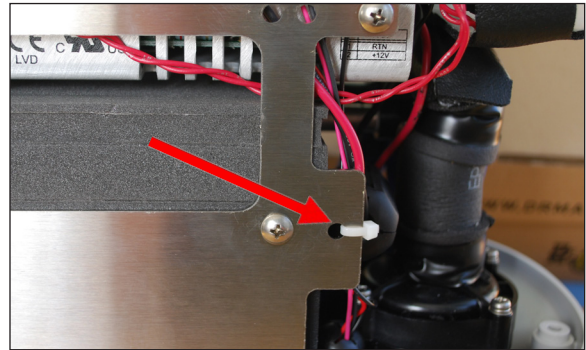

Figure 75 - Step 7 Secure wires to bracket
7. Secure the fan and pump wires to the front thermoelectric subassembly bracket with a wire tie (Figure 75). Use the wire cutters to remove the excess wire tie. Slide the EMI suppressor down to the wire tie.